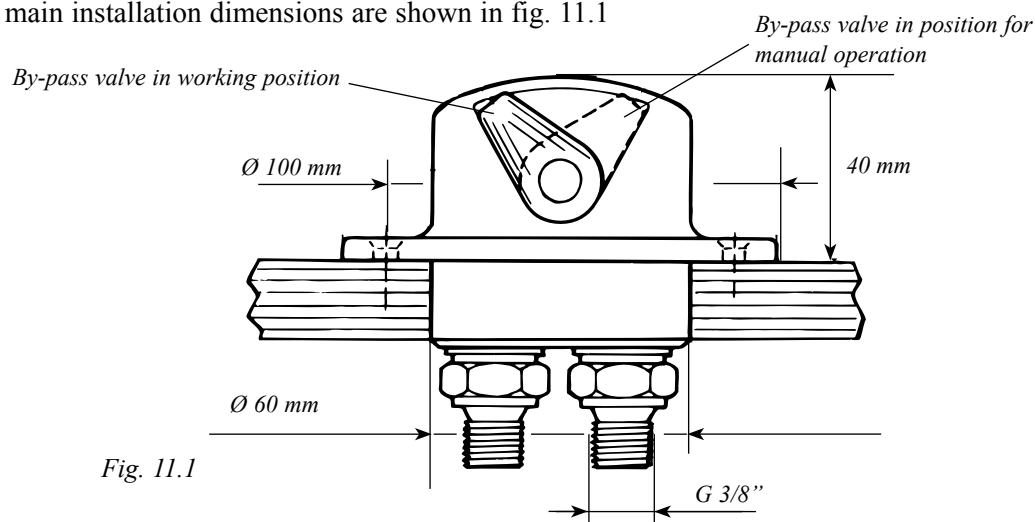

Fig. 11.1
5. Siting of the through-deck fitting is to your choice. Send measurements A and B to Seldén Mast AB or your dealer. We will then make up the two hydraulic hoses for the motor. See fig. 11.1 for the through-deck fitting dimensions. A Ø 60 mm hole through the deck is required.
The main installation dimensions are shown in fig. 11.1
2. Connecting threads are G 3/8. (See fig. 11.1)